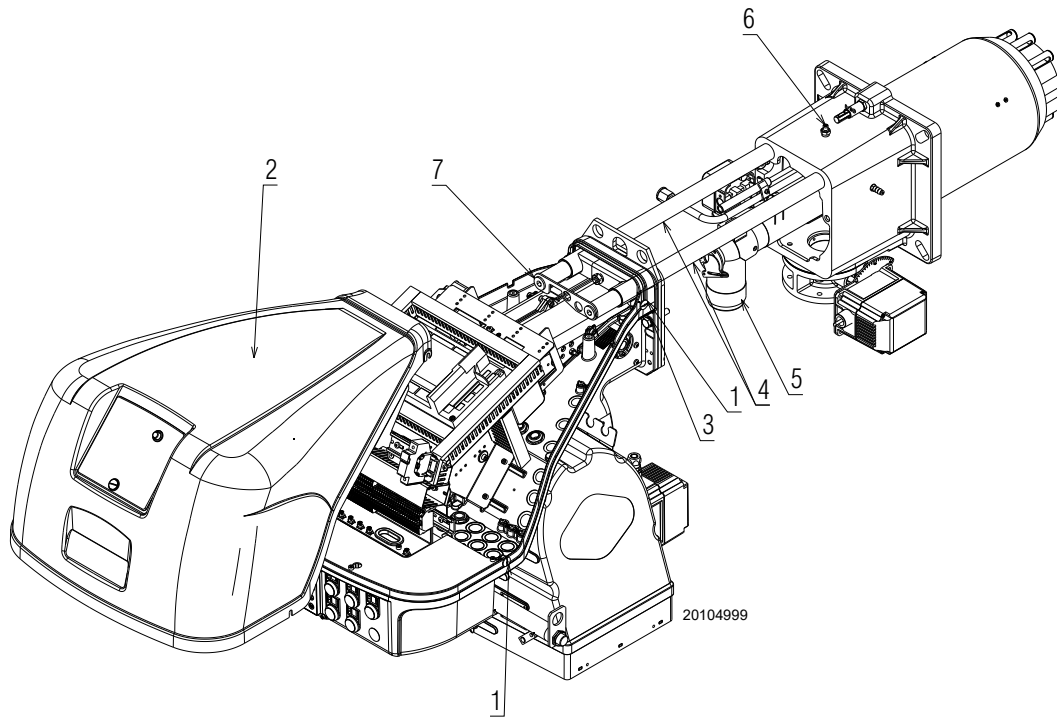

Fig. 34
- Loosen the 4 screws 1)(Fig. 34) and remove the hood 2);